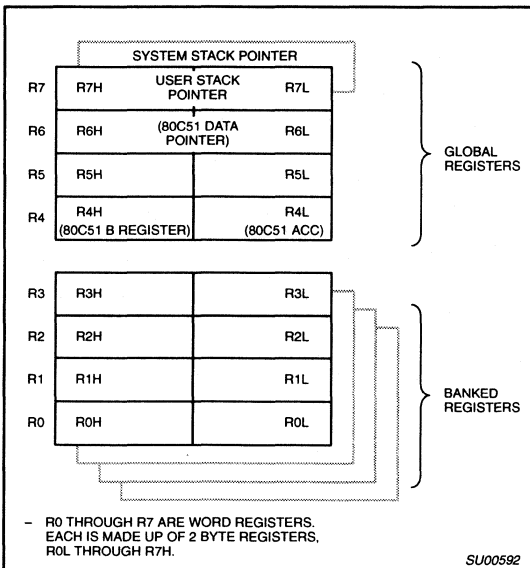

Figure 1. XA Register File
In translating 80C51 source code to the XA, particular registers are used to represent the accumulator (A) and the data pointer (DPTR). Although the XA can use any of the 14 general purpose byte registers in the register file as an accumulator, the 80C51 has some features that require the accumulator to be a specific byte register. These are primarily the parity flag and a few special instructions that intrinsically reference the accumulator in a way that could not be generalized in the XA. The latter are, specifically, instructions like: JZ, JNZ, MOVC A,@A+DPTR, MOVC @A+PC, and JMP @A+DPTR. Figure 1 shows the register file of the first XA derivative (the XA architecture can support some additional registers not implemented in the first part) and the registers used for 80C51 translation.